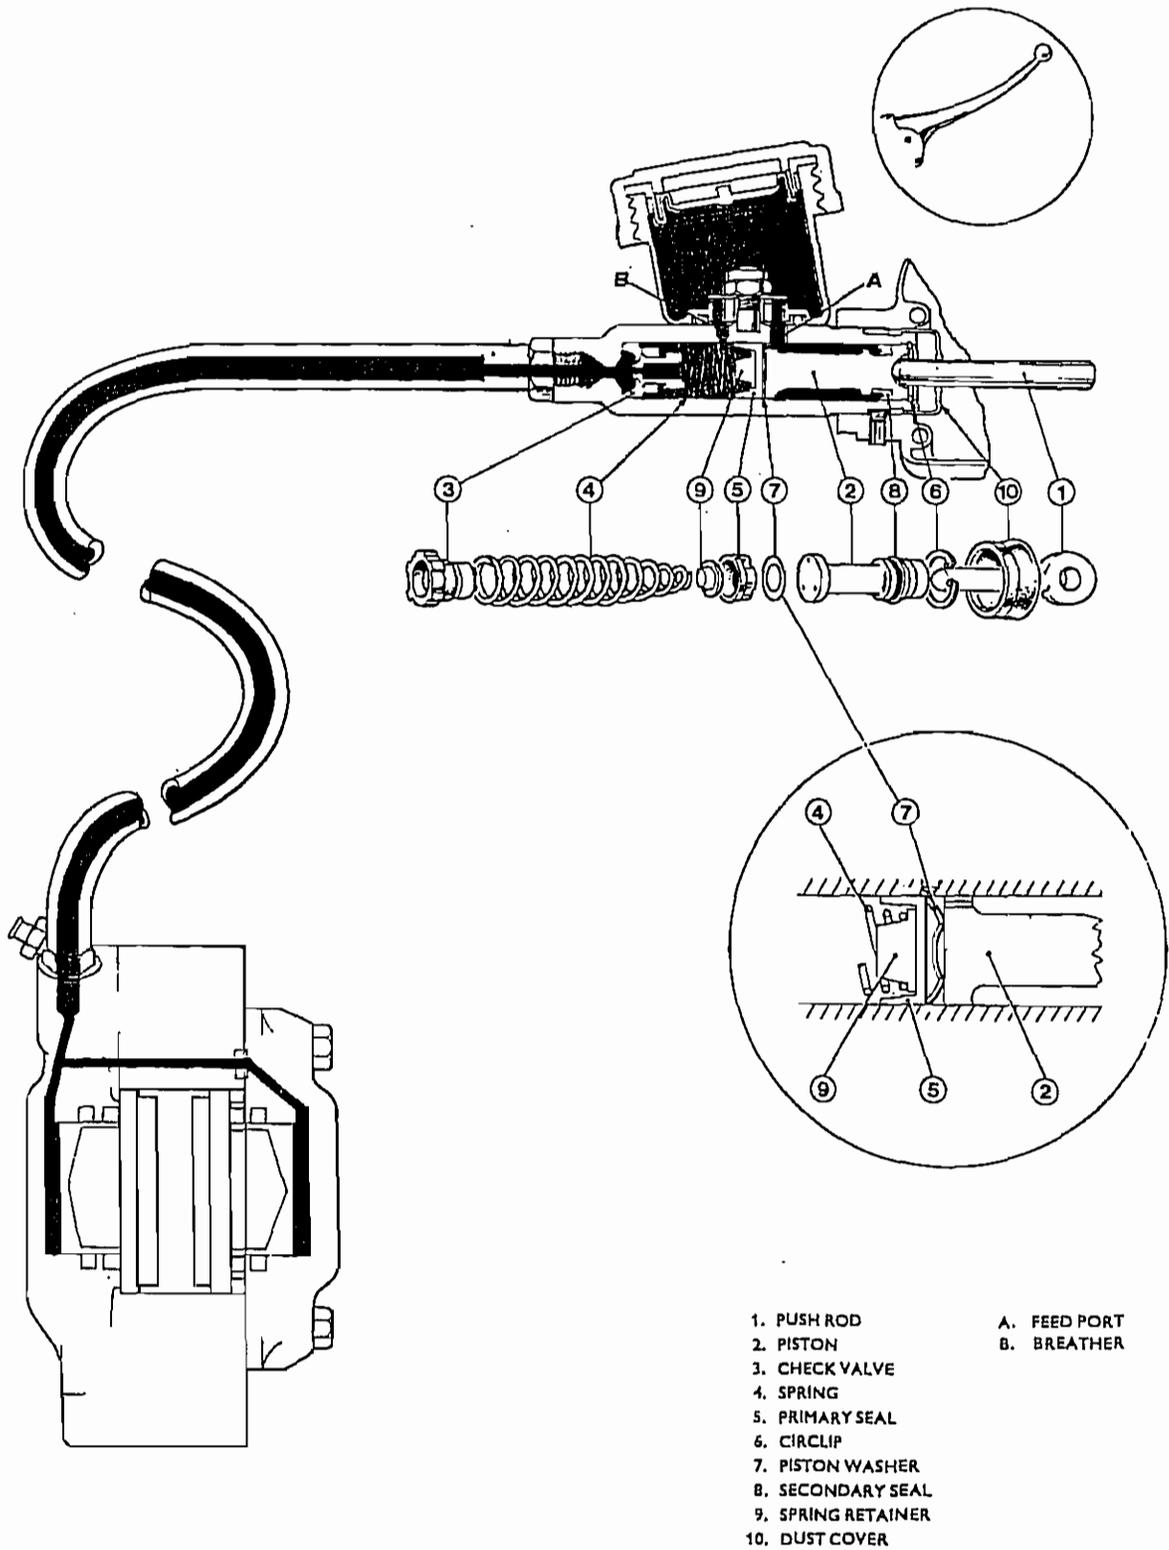

Fig. F5. Hydraulic flow diagram
The master cylinder consists of a fluid reservoir bolted to a cylinder body, which contains a piston, seals, and other parts, as shown in Fig. F6. With reference to this exploded view, and also the hydraulic flow diagram (Fig. F5), the operation of the brake assembly is as follows.
Fit the return spring. Empty the cylinder of fluid, and proceed to reassemble the cylinder barrel into the switch housing. At this stage the final position of the cylinder barrel in the housing must be determined. It will be noted, from Fig. F5, that the lip of the primary seal (5) must be $\frac{1}{8}$ in. behind the breather port, and the reservoir set at an angle of 10° to the vertical. The milled flats on the threaded end of the cylinder are machined relative to the 10° position, and the appropriate one must be used when assembly takes place.